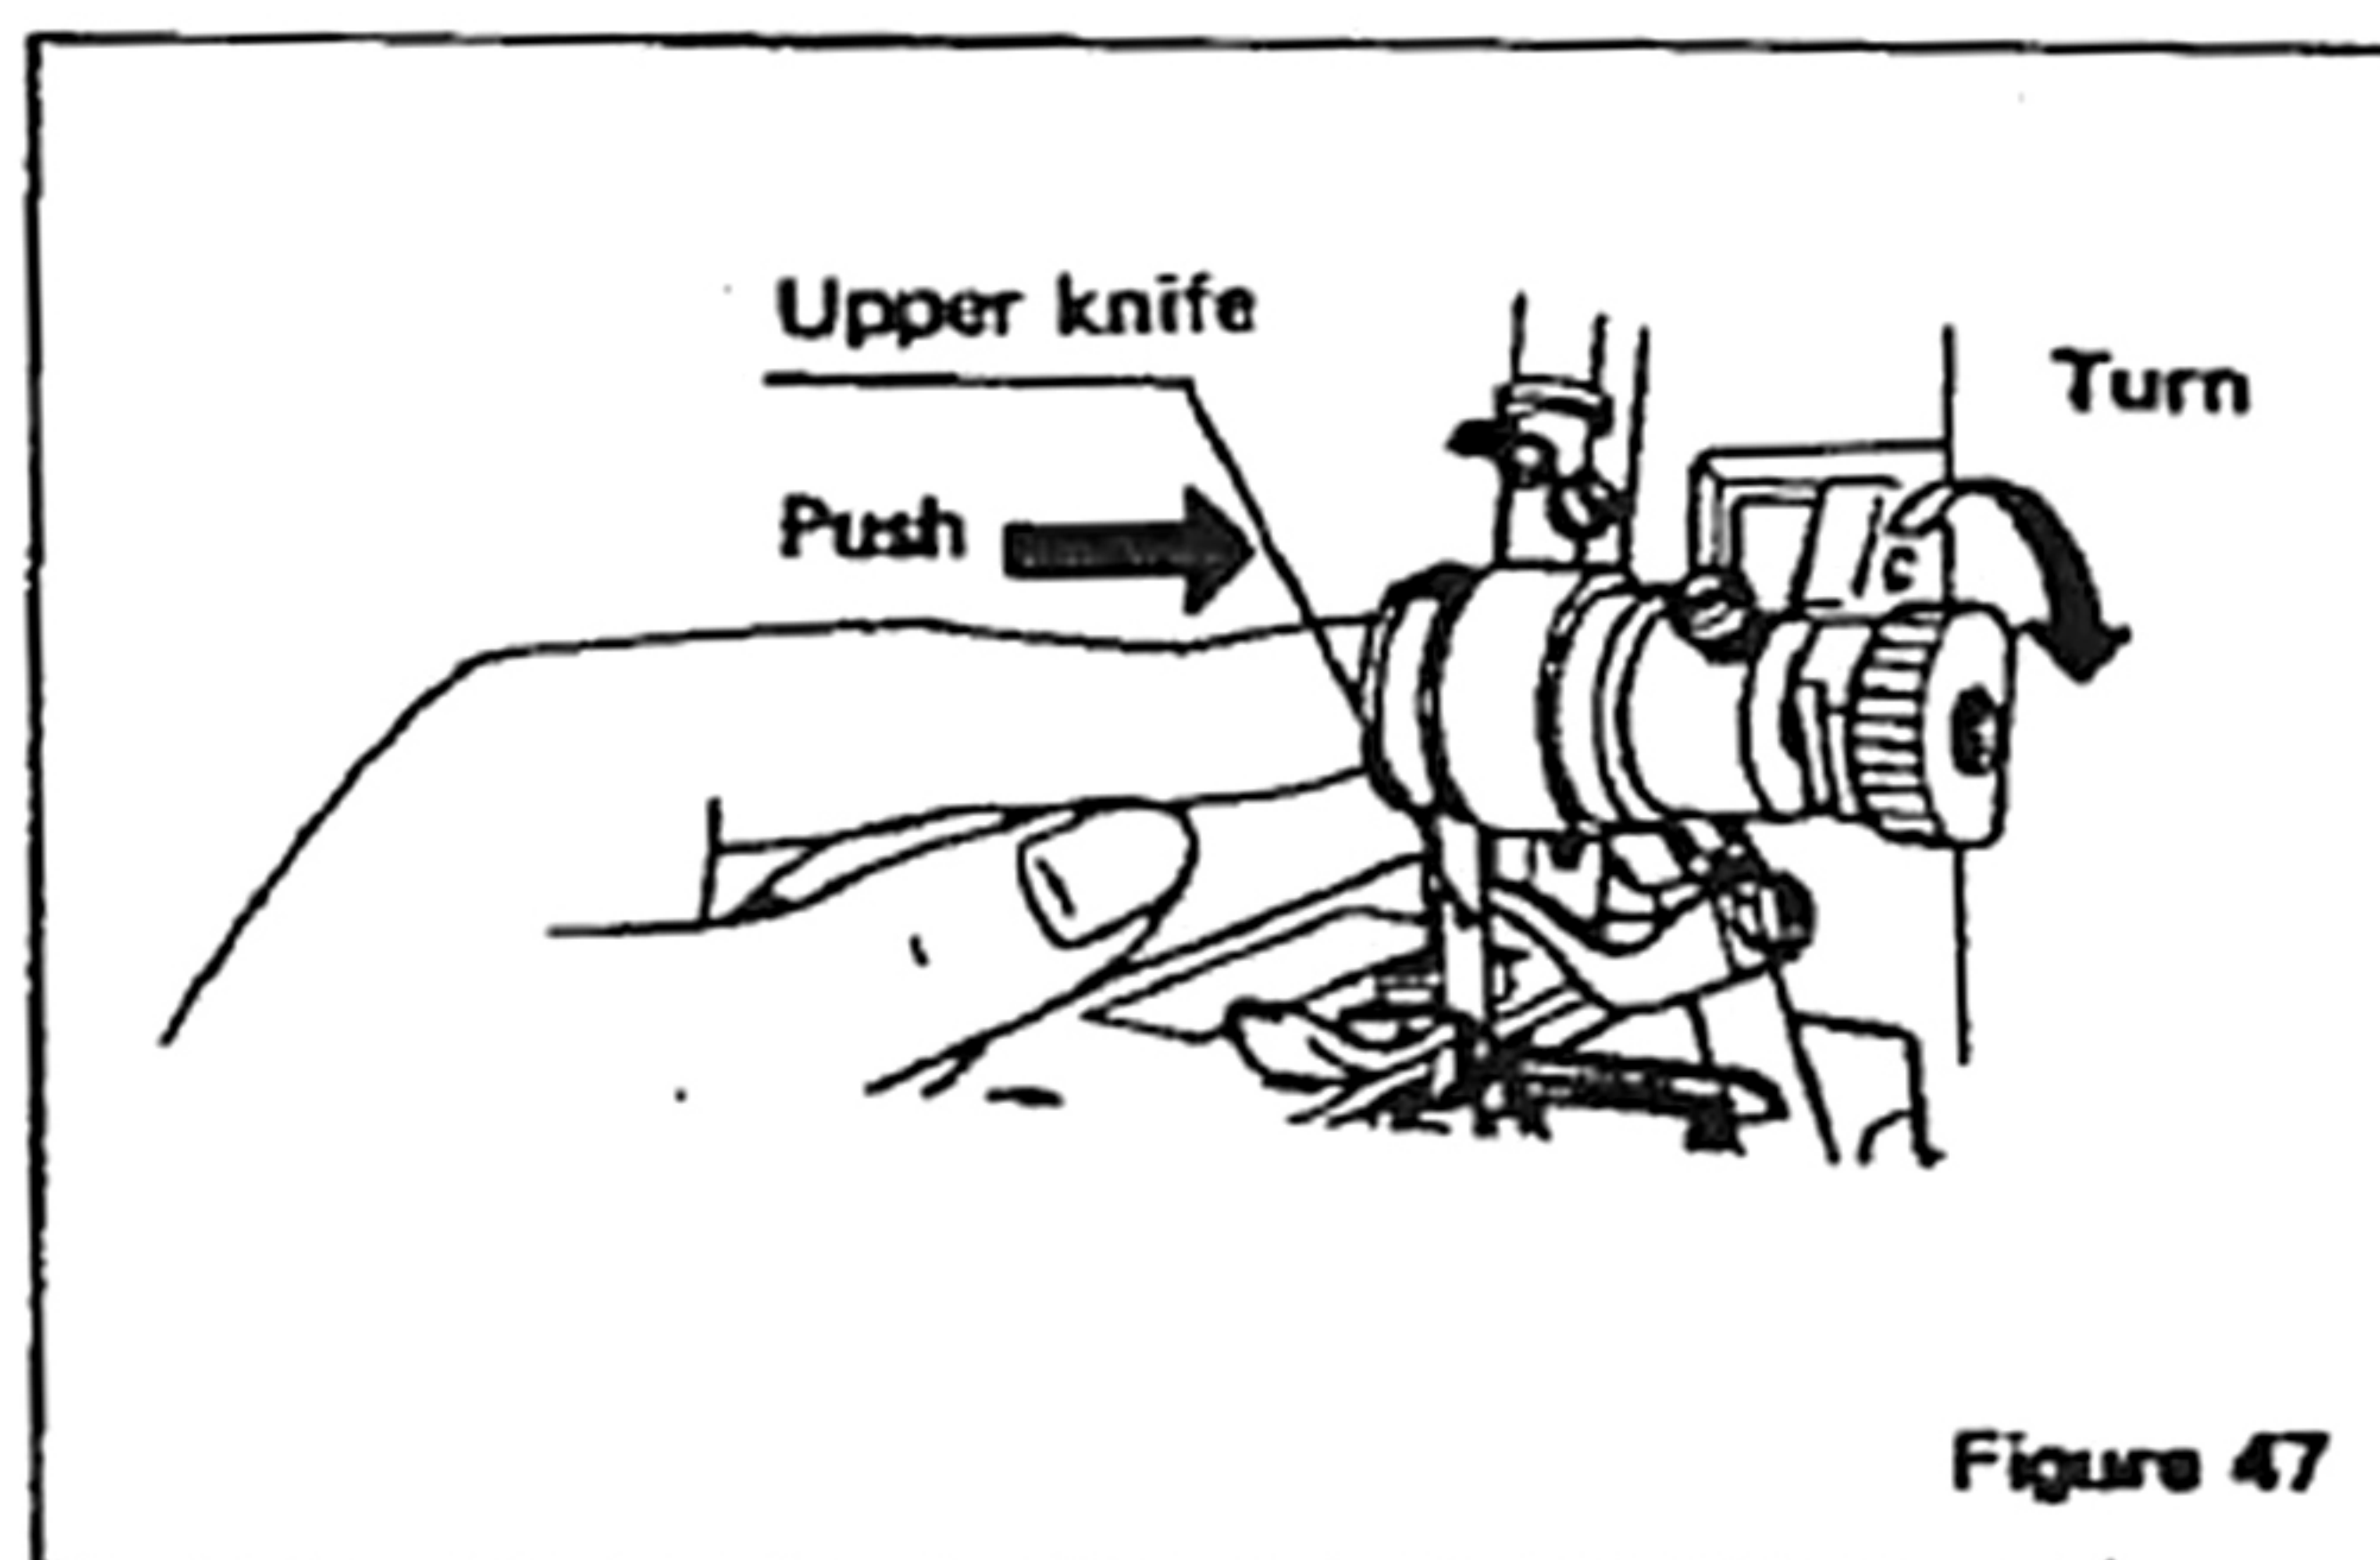

Figure 47
2. Push on the upper knife holder with a finger of the left hand, and turn the knife holder knob with the fingers of the right hand, clockwise, until the knife tip raises to the highest position (Figure 47).